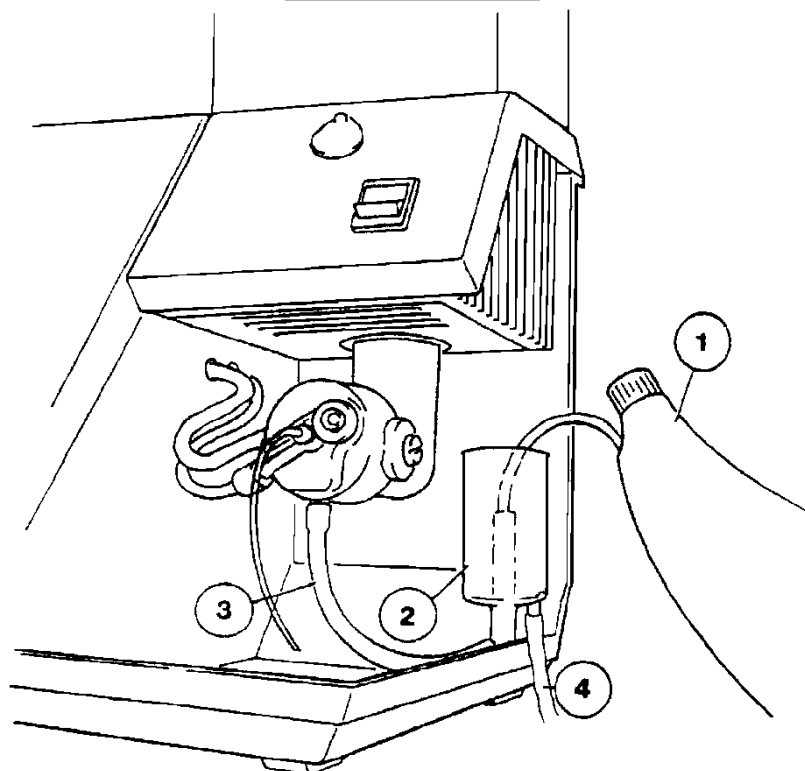

Figure 2.4 Filling the 'U' Tube
8. Fit the constant head & drain (Gas Trap) on the two retaining screws (see below). *Make sure* that it is positioned so that it is pushed fully down on its retaining screws. Fit a length of drain tubing (400 22 002) (item 4, Figure 2.4) to the outlet on the constant head drain (or Gas Trap). If necessary connect a suitable length of tubing (not supplied), to extend the drain tubing to carry waste to a sink or other drain receptacle. The downward flow of waste must not be restricted.
9. Use a wash bottle (item 1, Figure 2.4) to fill the 'U' tube with deionised water. Sufficient water should be used to purge the tube of air. Allow excess water to flow back into the drain.